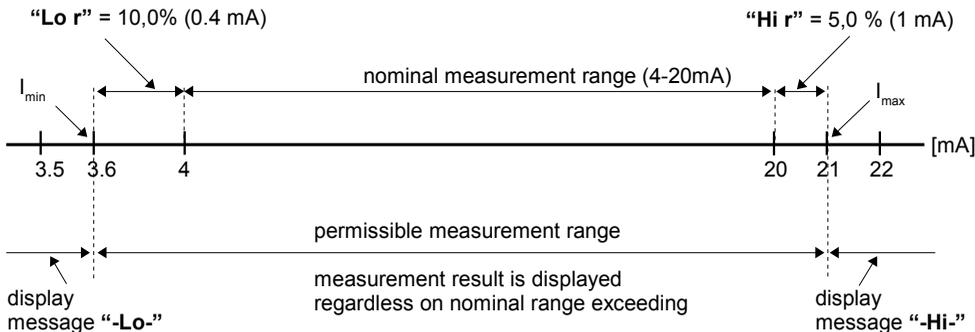

Figure 7.1 Example of definition of permissible range of input signal - “Lo r” and “Hi r” parameters
**“Lo r”**, **“Hi r”** - these parameters define the expansion of nominal range in percent. They determine the permissible range of input signal (figure 7.1).